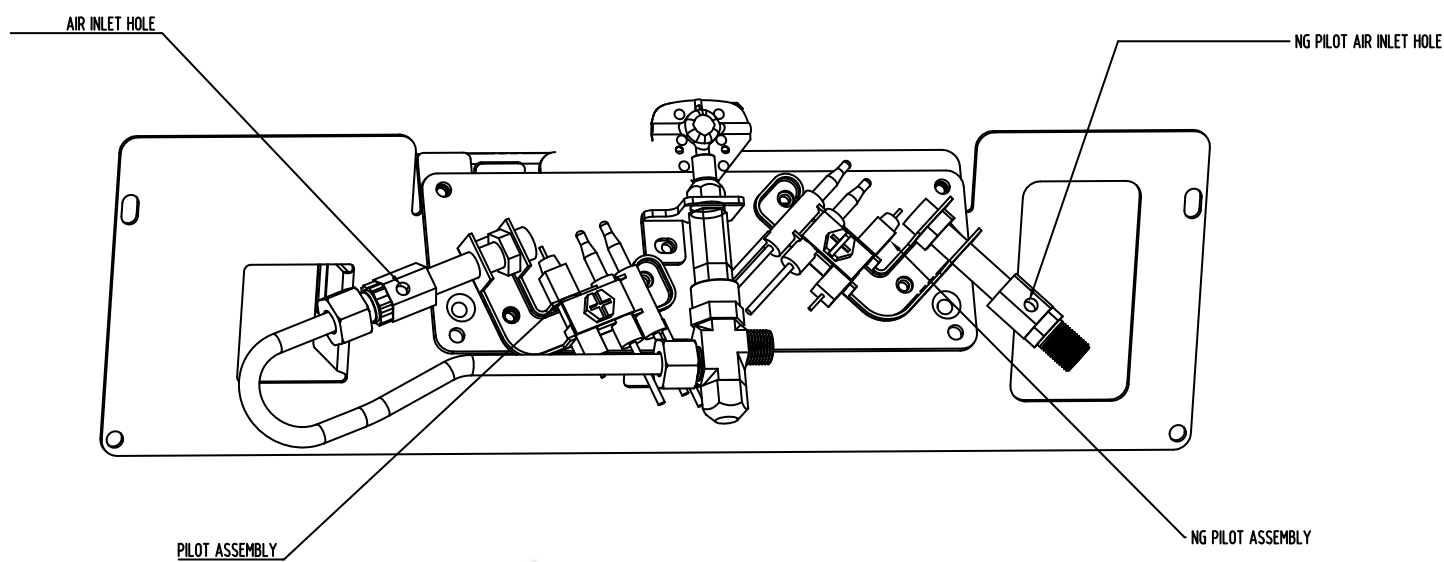
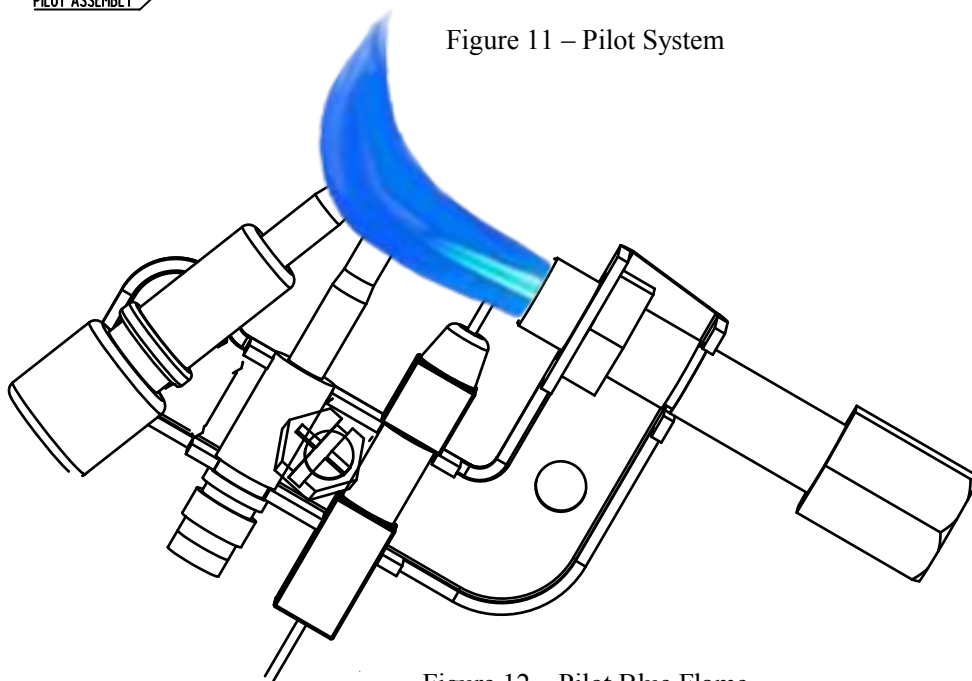

Figure 11 – Pilot System
Figure 12 – Pilot Blue Flame
Two pilot burners with ODS function for NAT and LP gas respectively are installed on burners two sides separately as shown in Figure. 11. The normal ODS pilot flame should have a correct pattern as shown in Figure. 12 in normal operation with exception during ignition stage.
3. Blow air through the ports/slots and holes in the burner. Also clean the pilot assembly. A yellow tip on the pilot flame indicates dust and dirt in the pilot assembly. There is a small pilot air inlet hole about two inches from where the pilot flame comes out of the pilot assembly (see Figure 11). With the unit off, lightly blow air through the air inlet hole. You may blow through a drinking straw if compressed air is not available.